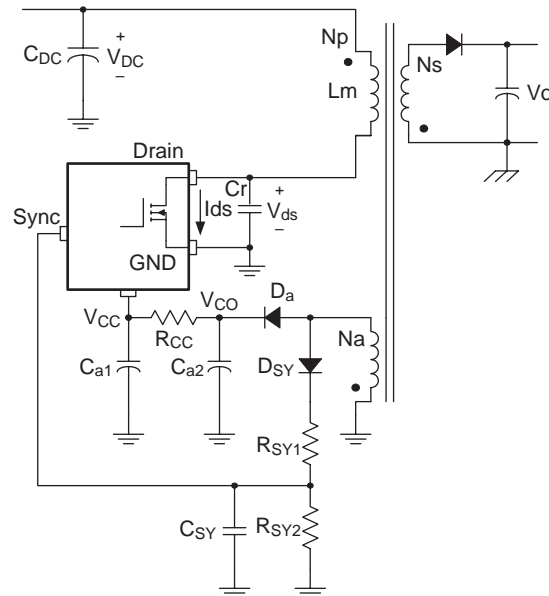
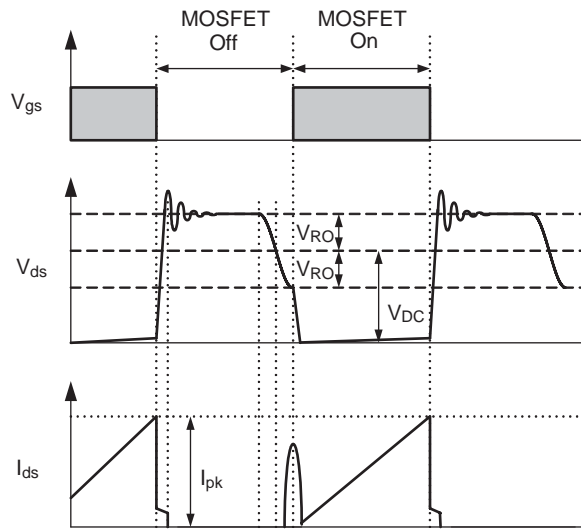
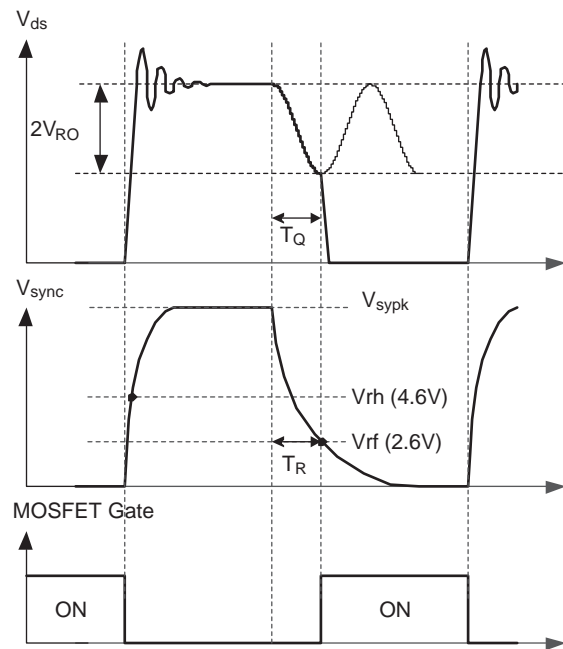

Figure 6. Synchronization Circuit
Figure 7. Quasi-Resonant Operation Waveforms
Figure 8. Normal Quasi-Resonant Operation Waveforms
2. Synchronization: The FSCQ-Series employs a quasi-resonant switching technique to minimize the switching noise and loss. In this technique, a capacitor (Cr) is added between the MOSFET drain and the source as shown in Figure 6. The basic waveforms of the quasi-resonant converter are shown in Figure 7. The external capacitor lowers the rising slope of the drain voltage to reduce the EMI caused when the MOSFET turns off. To minimize the MOSFET's switching loss, the MOSFET should be turned on when the drain voltage reaches its minimum value as shown in Figure 7.
The minimum drain voltage is indirectly detected by monitoring the V_{CC} winding voltage as shown in Figure 6 and 8. Choose voltage dividers, R_{SY1} and R_{SY2}, so that the peak voltage of the sync signal (V_{syPk}) is lower than the OVP voltage (12V) to avoid triggering OVP in normal operation. It is typical to set V_{syPk} to be lower than OVP voltage by 3–4V. To detect the optimum time to turn on MOSFET, the sync capacitor (C_{SY}) should be determined so that T_R is the same with T_Q as shown in Figure 8. The T_R and T_Q are given as, respectively: